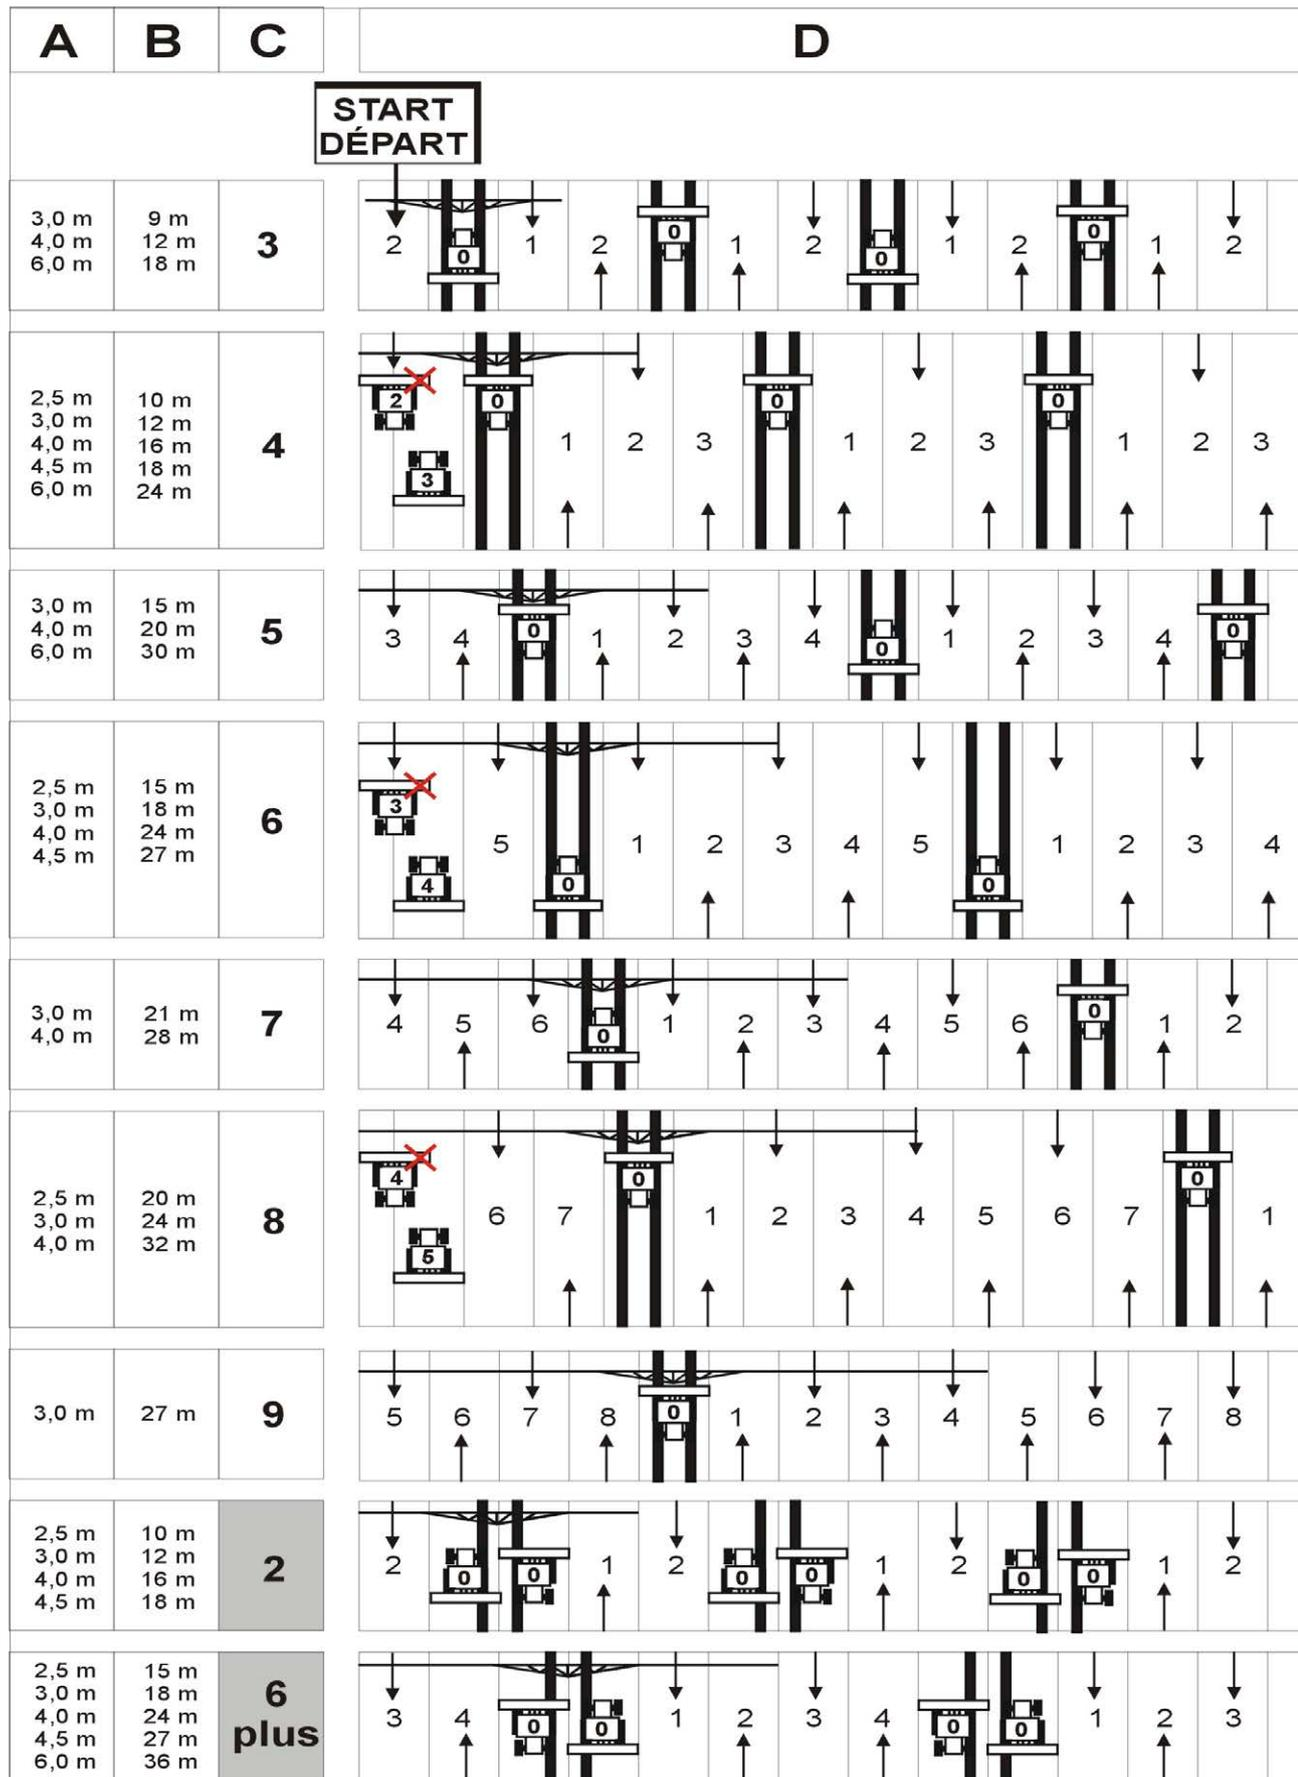
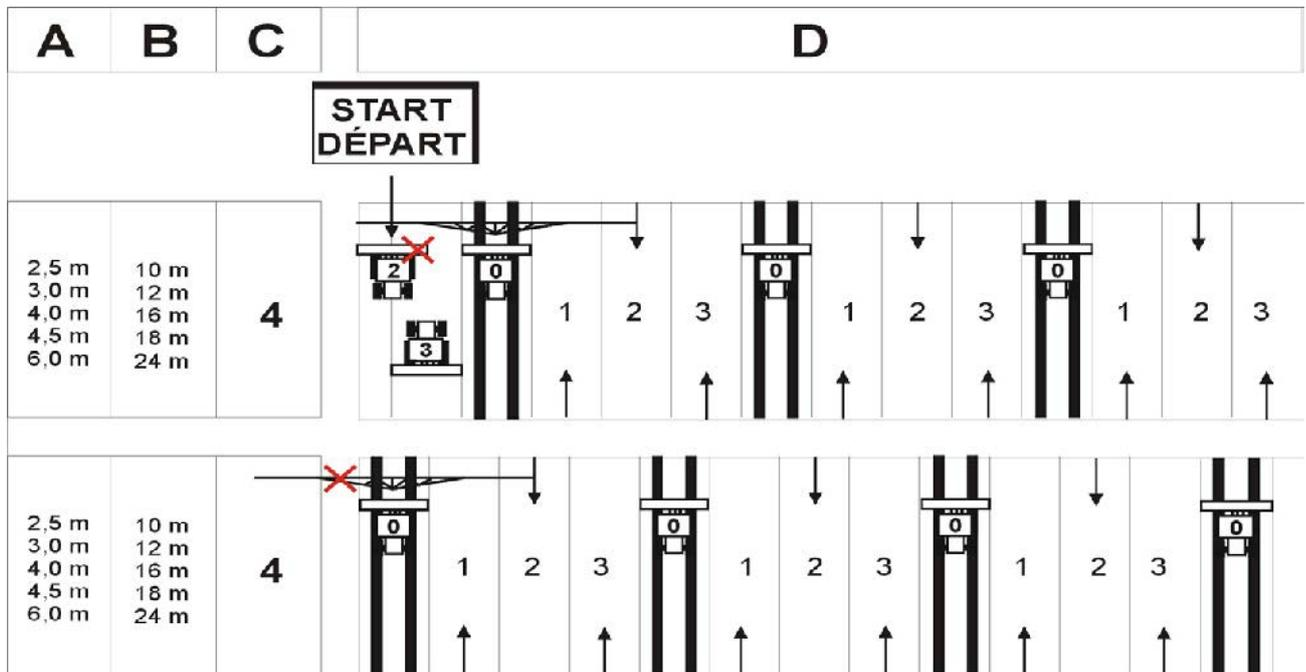

Fig. 65
Fig. 66
**Hints for Fig. 65:**
Fig. 65 shows among others examples for creating tramlines with 4-, 6- and 8-fold switching. In our example the seed drill operates during the first run in the field with half its working width. The second possibility is to start operation at the entire working width and by creating a tramline (see Fig. 66). In this case the fertiliser broadcaster should spread to one side with boundary spreading devices during the first run in the field. On field sprayers one sprayer boom is switched off during the first run in the field.
The tramlines with 2-bout and 6-plus bout rhythm (see Fig. 66) are created during one run in the field up and down.